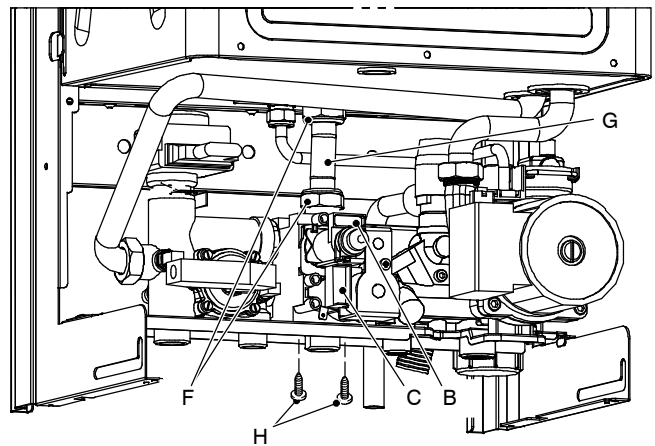

Fig. 48
- 2 Disconnect the connectors *B* (Fig. 48) from the modulating operator and measure the electrical resistance of the coil. Its electrical resistance value must be approx. $80\ \Omega^*$.
- 2 Disconnect the electrical connector *C* (Fig. 48).
- 2 Disconnect the connectors *B* and *C* (Fig. 48).